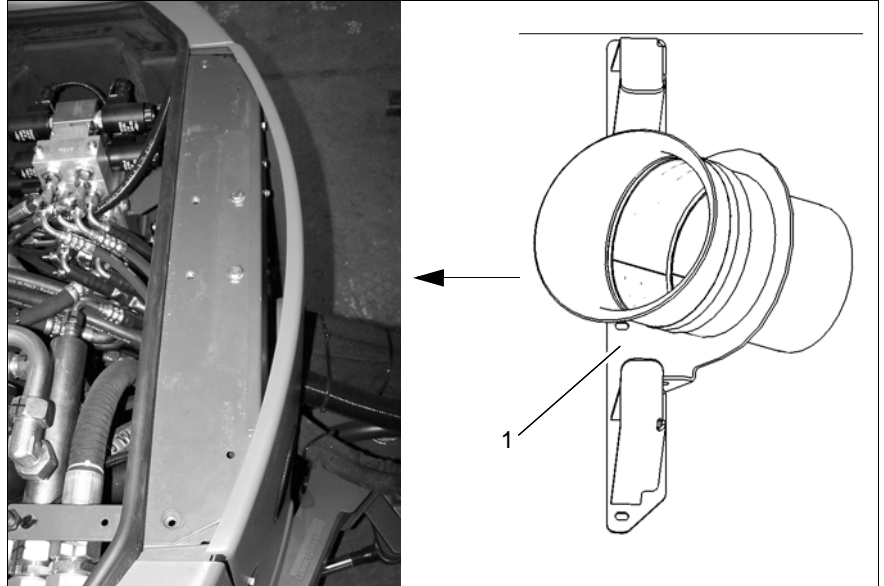

Fig7
- Mount suction hose adapter (Fig. 7/1) with four fixing screws to the rear cart
- Use cranks of the stand to evenly lower the hopper onto the rear cart. The grass and leaf vacuumer then centres on the suction hose adapter (Fig. 7/1)